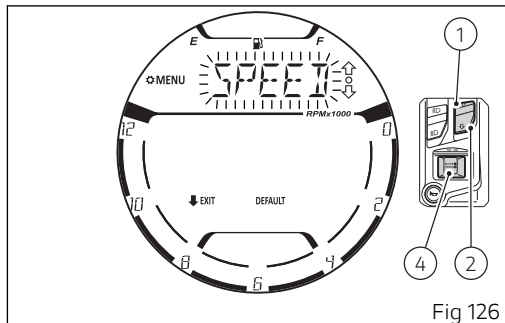

Fig 126
Use buttons (1) and (2) to select the flashing item "SPEED" (Fig 126) and press button (4).
Press button (4) to confirm. Successively, the display will show the flashing "SPEED" indication again (Fig 126).
Successively, the display will show the flashing "SPEED" indication again (Fig 126).